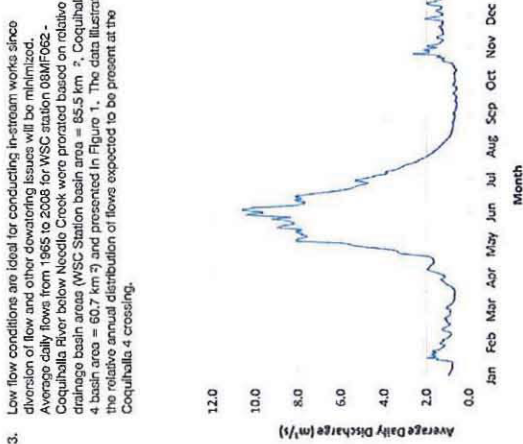

Figure 1. Average daily flow estimate for Coquihalla 4, data was taken from WSC station 08MF062 - Coquihalla River below Nocoito Creek, 1965 - 2008.
- Low flow conditions are ideal for conducting in-stream works since diversion of flow and other dewatering issues will be minimized. Average daily flows from 1965 to 2008 for WSC station 08MF062 - Coquihalla River below Nocoito Creek were prorated based on relative drainage basin areas (WSC Station basin area = 85.5 km², Coquihalla 4 basin area = 60.7 km²) and presented in Figure 1. The data illustrate the relative annual distribution of flows expected to be present at the Coquihalla 4 crossing.